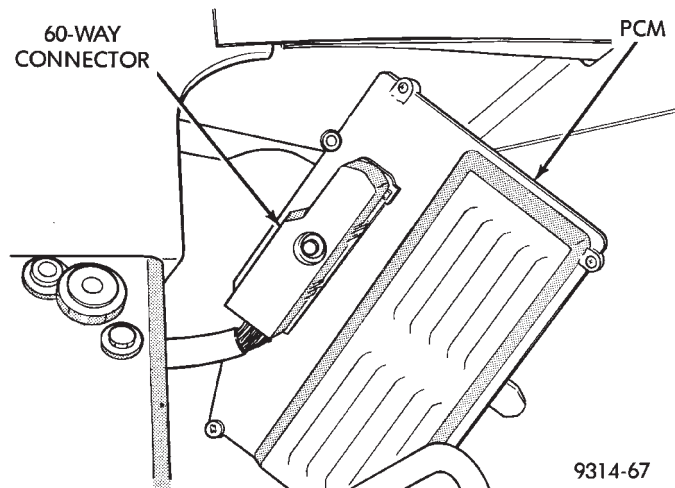

Fig. 2 PCM 60-Way Connector
- (3) Lift PCM up. Disconnect PCM 60-way connector (Fig. 2).
- (4) Remove PCM.